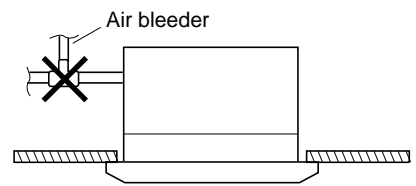

Fig. 3-40
- Do not install an air bleeder as this may cause water to spray from the drain pipe outlet. (Fig. 3-40)